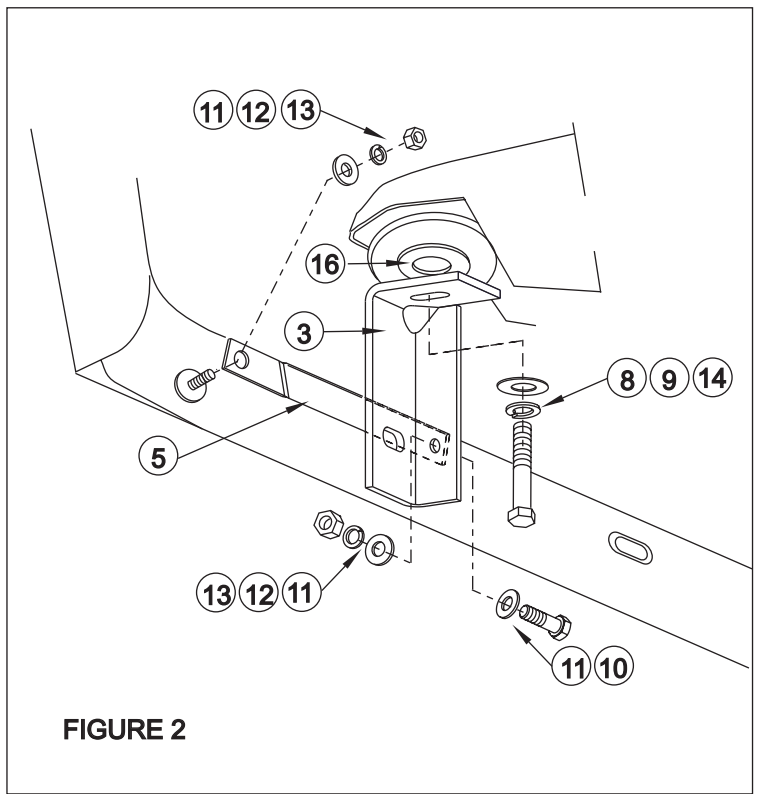

FIGURE 2
- STEP 3. Install front and rear brackets as shown. Hand tighten. **SEE FIGURE 2 AND 3.**
- STEP 5. Attach support brace as shown. Hand tighten. Be sure bolt plate does not rotate out of hole by holding with small screwdriver until it is snug. **NOTE:** Rear brace not required on Regular Cab models. **SEE FIGURE 2 AND 3.**